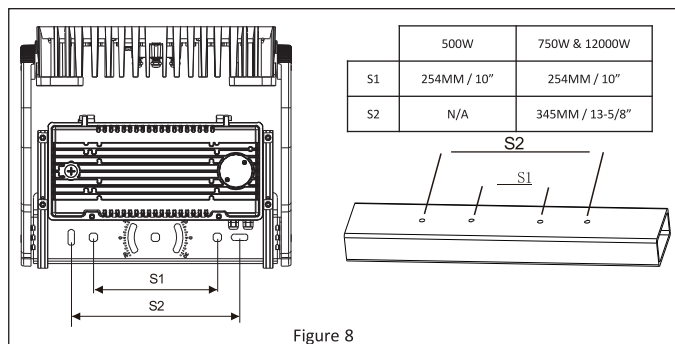

Figure 8
1. Mark the hole distance S1 or S2 shown for the product to be installed. **See Figure 8.**